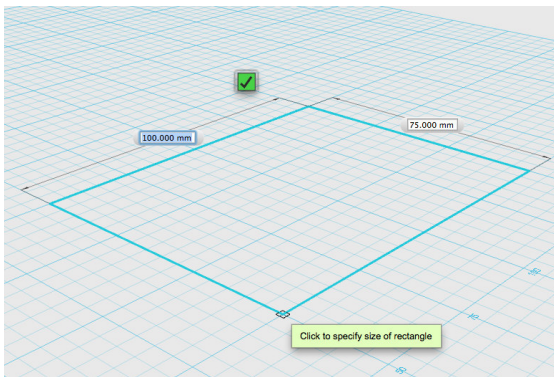

Figure 4-139 Complete the rectangle
2. Click again to lock down the first corner of the rectangle. Then move your mouse and click again to complete your rectangle (Figure 4-139). Don't worry right now about the size of the rectangle; we'll go over that a little later.